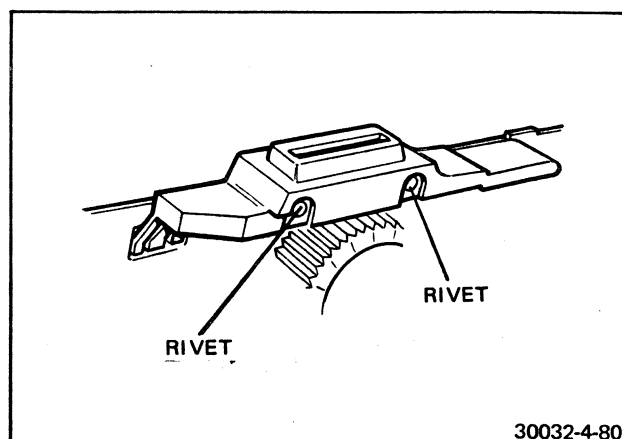

FIGURE 4-80 PILLAR SOCKET RIVET LOCATIONS
- e. Turn the shutter over and remove the two rivets (Figure 4-80):